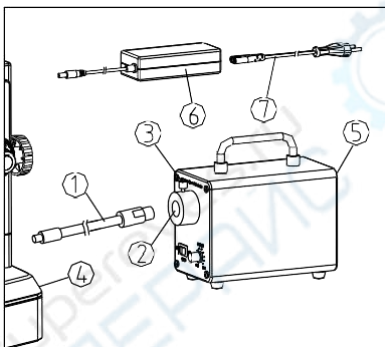

Fig. 12
- 1) Make sure the main switch is at “O” (OFF) position.(See Fig. 12)
- 2) Insert one end of the optical fiber① into the inner hole② of the power supply box to the bottom, and align the flat surface with the lock screw③, then lock it with the lock screw③.
- 3) Insert the other end of the optical fiber① into the hole of the base④, then lock it with the lock screw.
- 4) Insert one end of the power adapter⑥ into the inner hole⑤ of the power supply box.
- 5) Insert one end of the power cable ⑦ into the corresponding hole of the power adapter⑥, and the other end into the power supply socket.